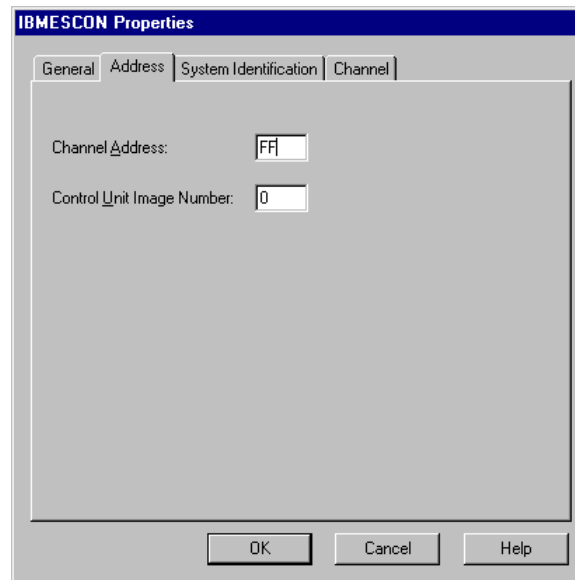

Figure 8-26. Channel Address
4. The Channel Address dialog box appears (Figure 8-26).